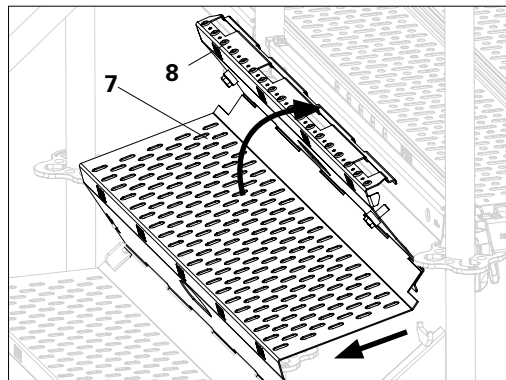

Fig. A2.08a
1. Lift the last step (7) out of the holder slightly.
2. Place the End Step UAE (8) horizontally on the last step (7). (Fig. A2.08a)